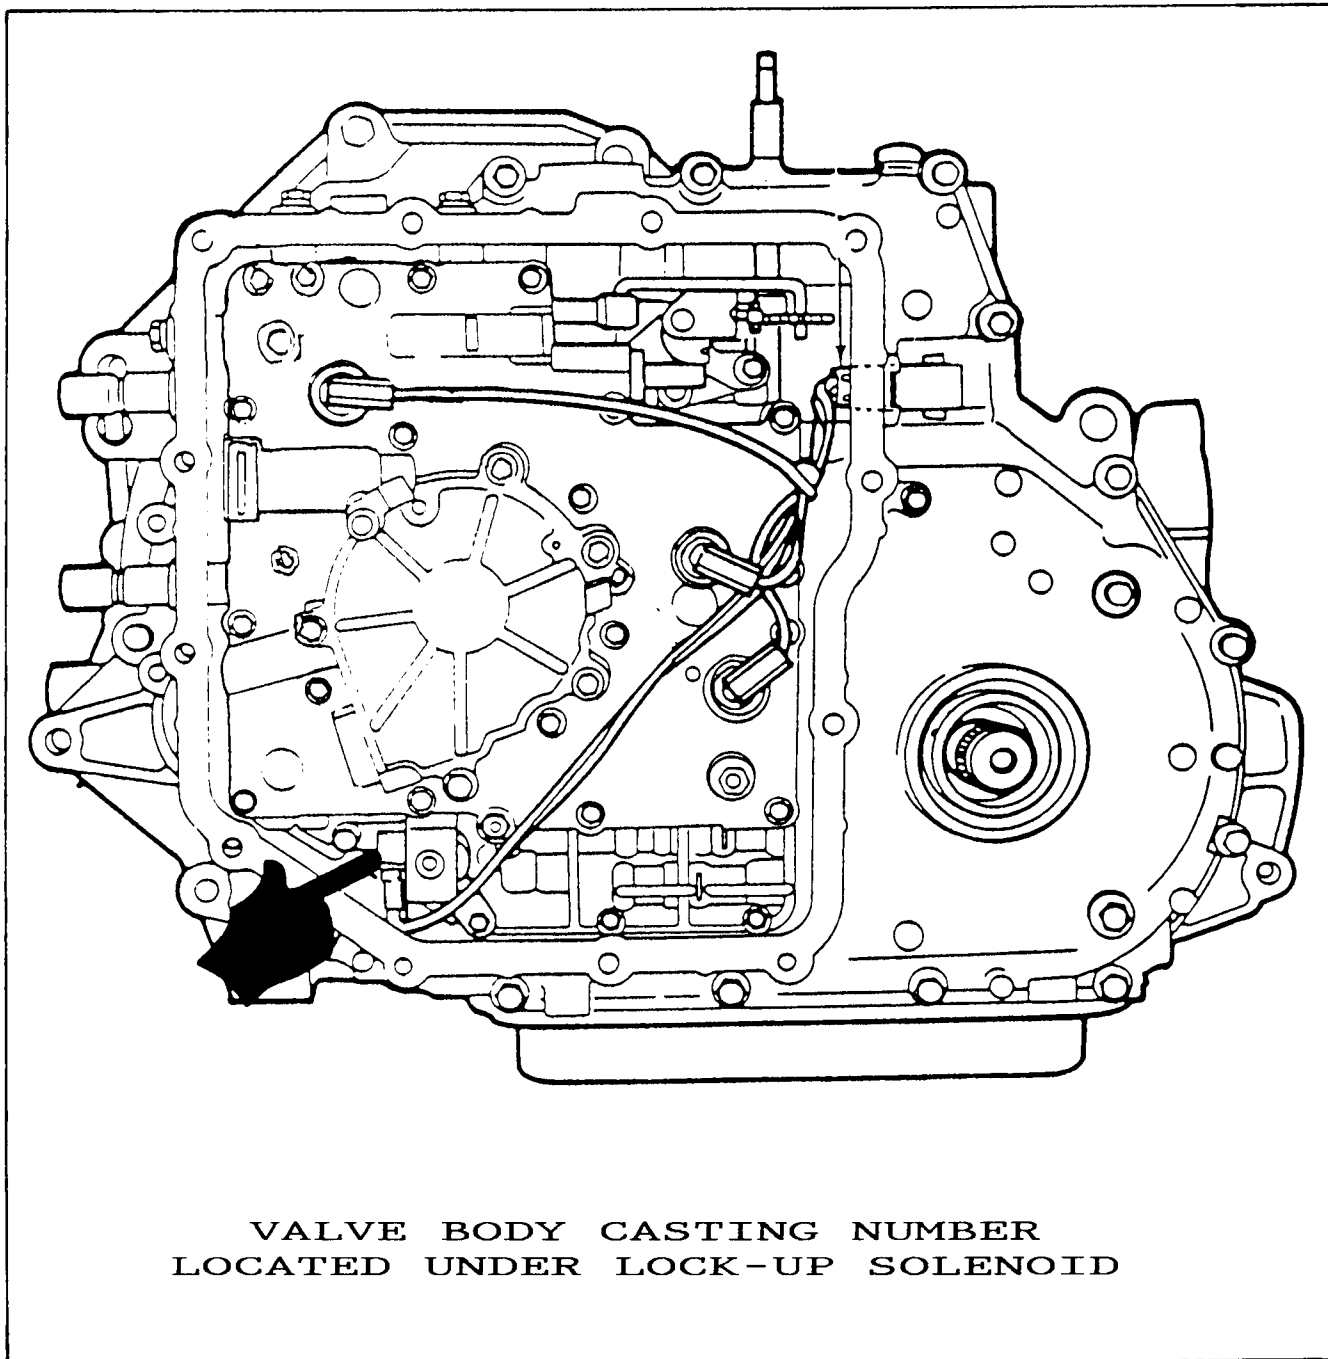

Figure 2
- (4) VALVE BODY CASTING - Must be identified by the casting number located beneath the lock-up solenoid as shown in Figure 2, and can be identified as follows: